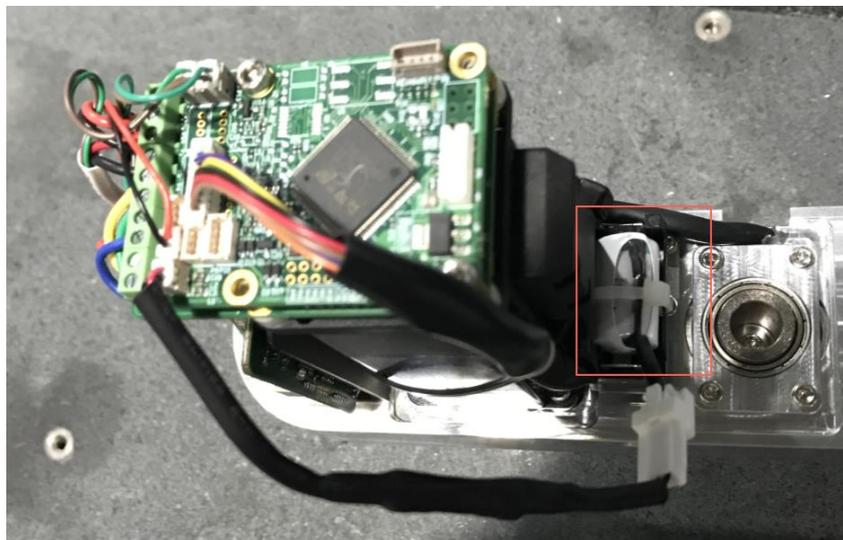

Figure 7.14 Put battery into battery holder
- Step 8** Put the standby battery into the battery holder as shown in Figure 7.14 and cut off the redundant wire tie.